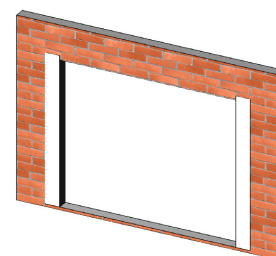

Figure 12:
- At each Jamb the flashing paper should be cut at least 3" past the weep-screed or diado flashing and at least 6" above the head of the door. The flashing must wrap around the jamb and at least 3" back into the opening (Figure 12).